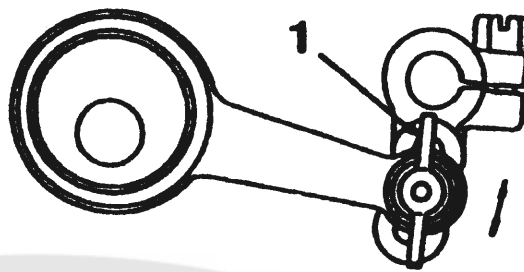

Fig.11
13.ADJUSTINT THE LIFT OF THE ALTERNATING PRESSER FOOT: (Fig. 11)